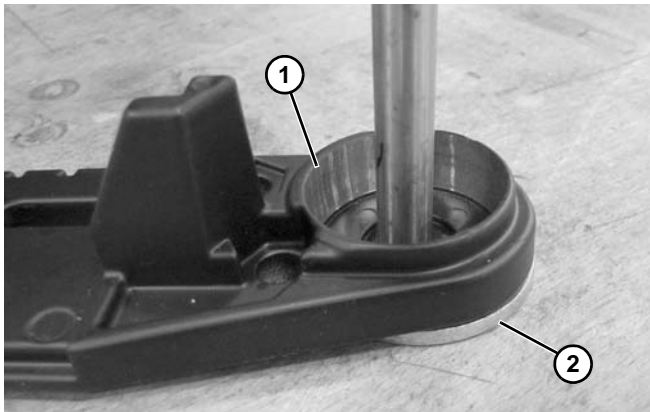

Figure 92
2. Set tail plate (**Figure 92, item 1**) flat side down over washer (**Figure 92, item 2**) or hole in workbench that has a minimum diameter of 16 mm.